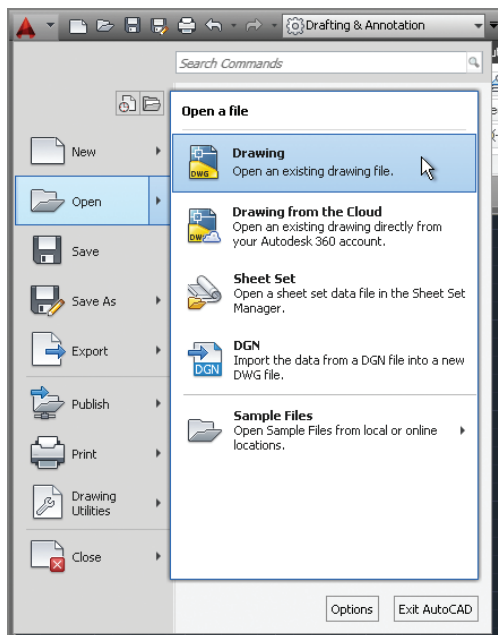

FIGURE 1.3 Opening a drawing from the Application menu
2. Click the red X at the extreme right edge of the search box to make the initial Application menu interface reappear. Here you can create new or open existing drawings, export or print drawings, and more. Hover the cursor over **Open**, and then click **Drawing** (Figure 1.3).